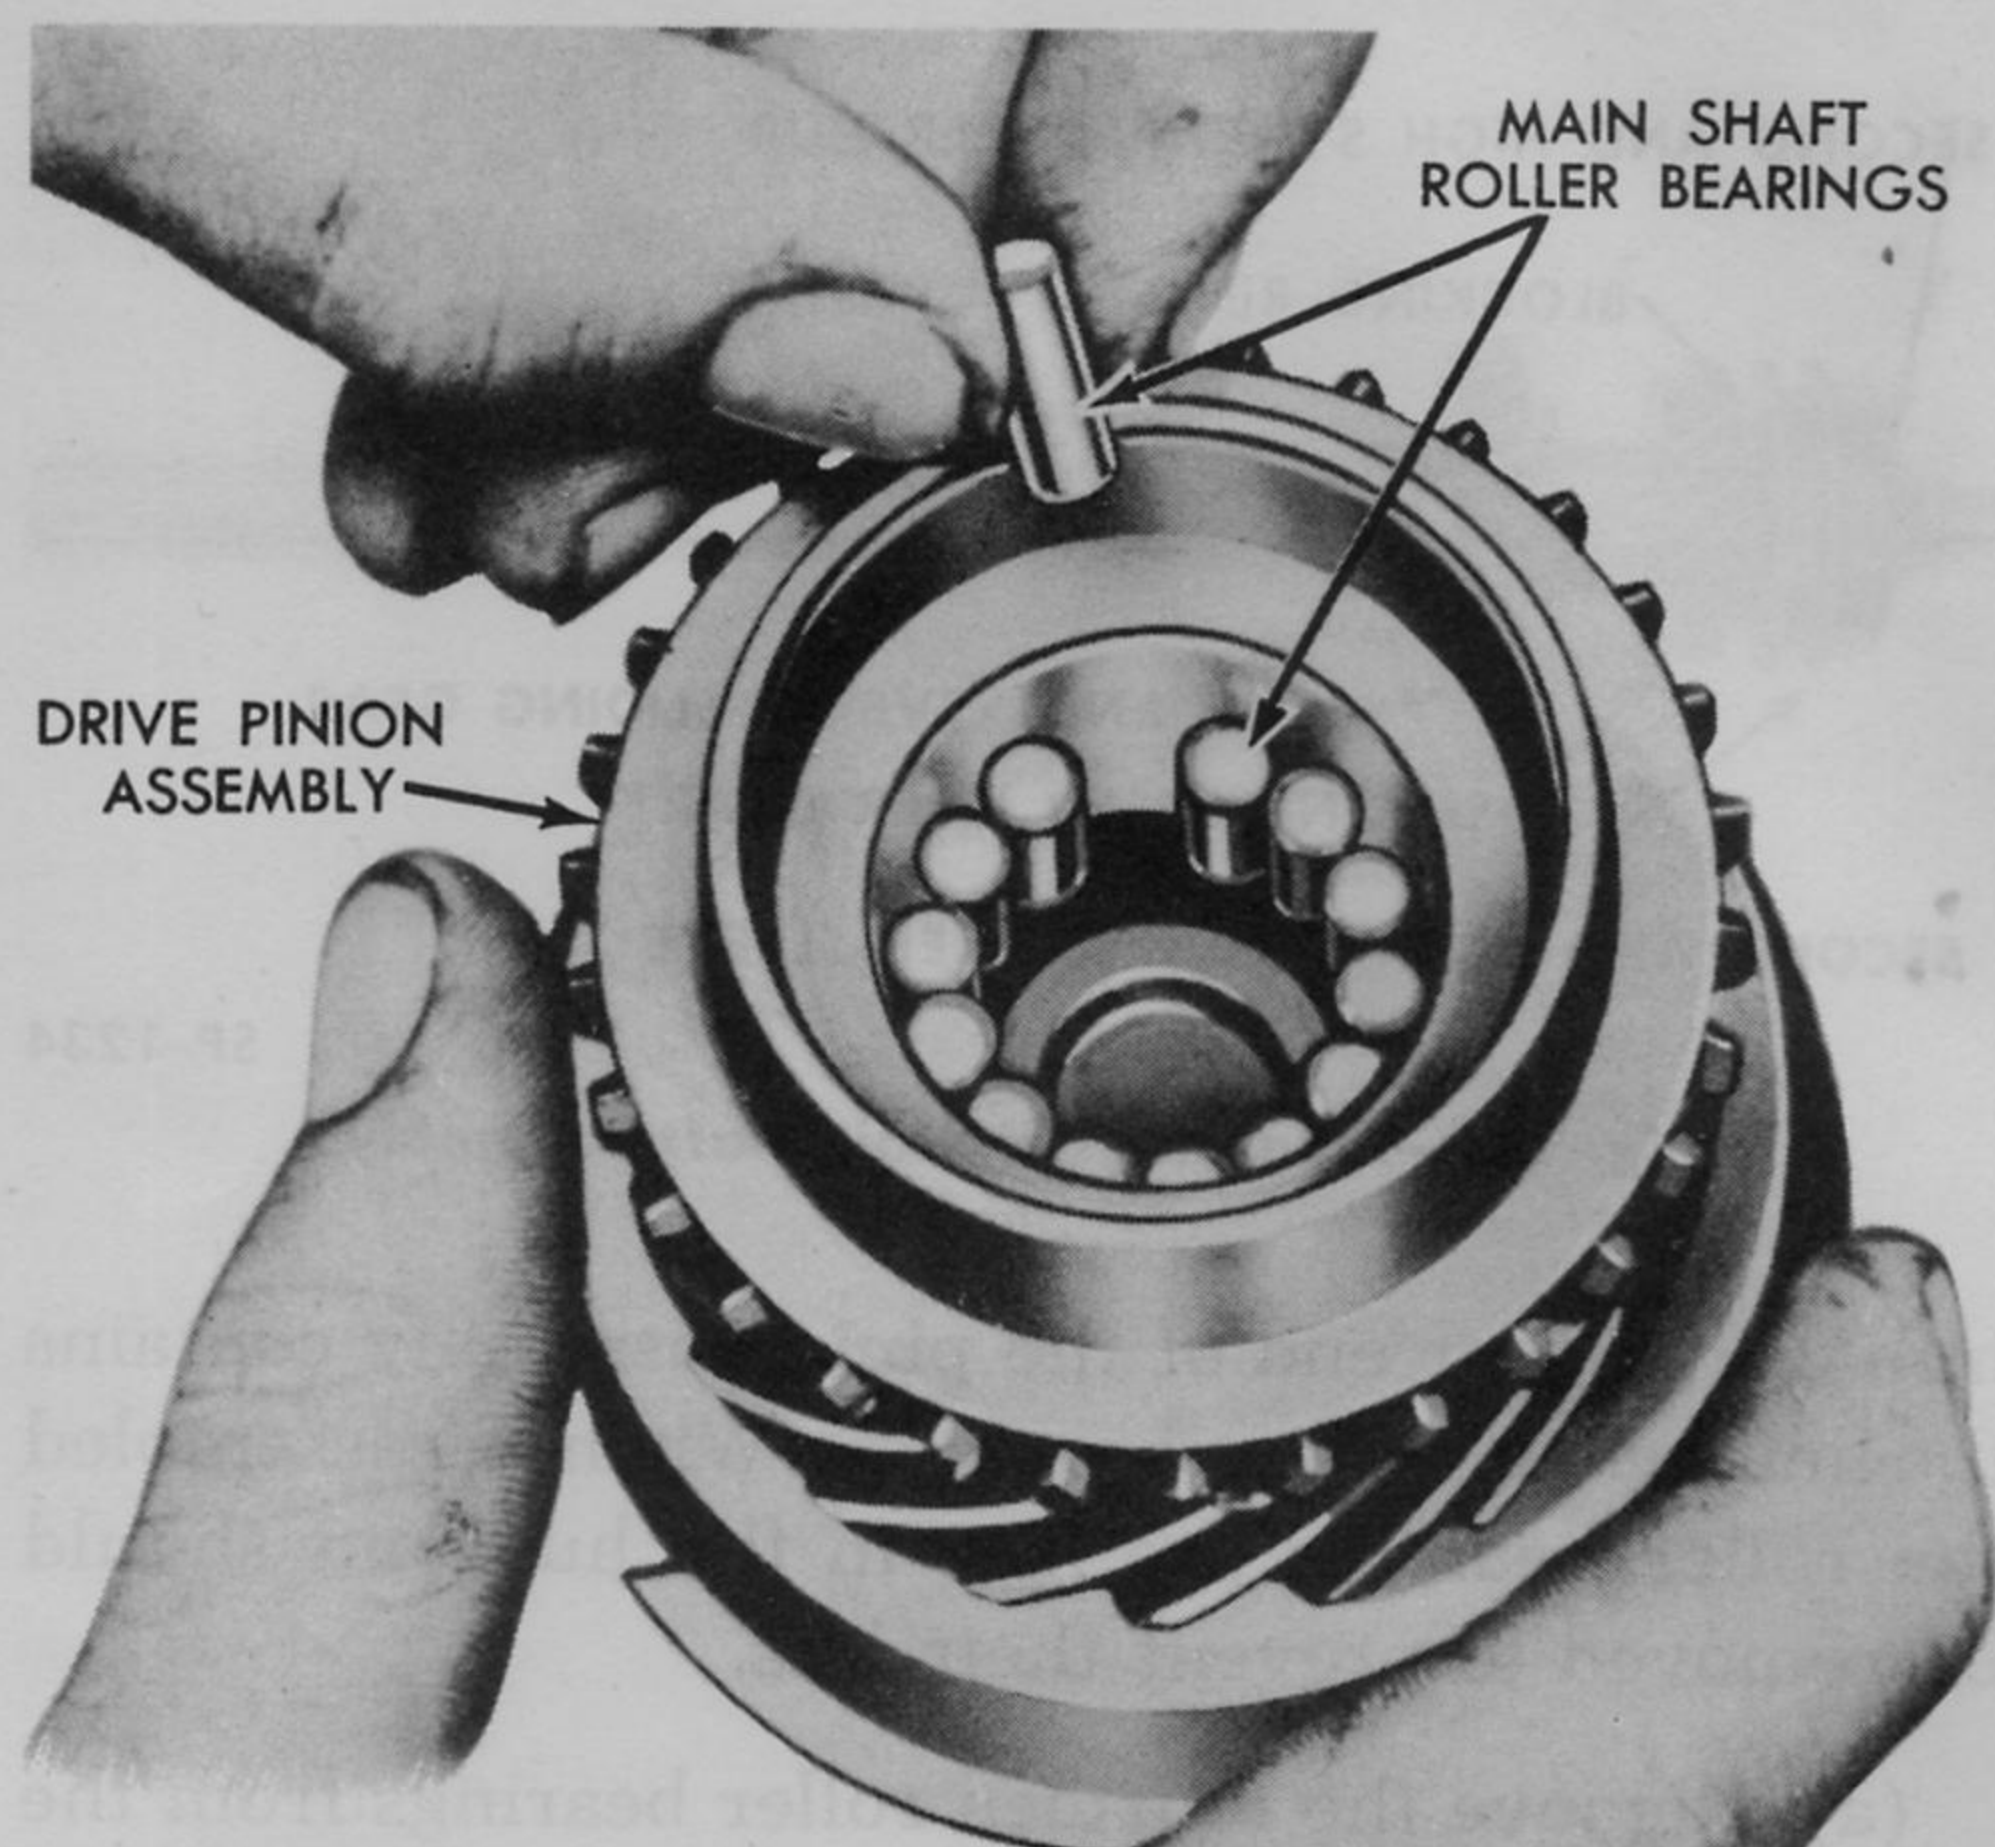

Fig. 198—Installing Roller Bearings In Pinion
2. Assemble the drive pinion. Other than installing the roller bearings, the pinion is completely assembled during installation in the transmission case. Install the fourteen roller bearings in hub of the pinion shaft using lubricant to hold them in place (Fig. 198).